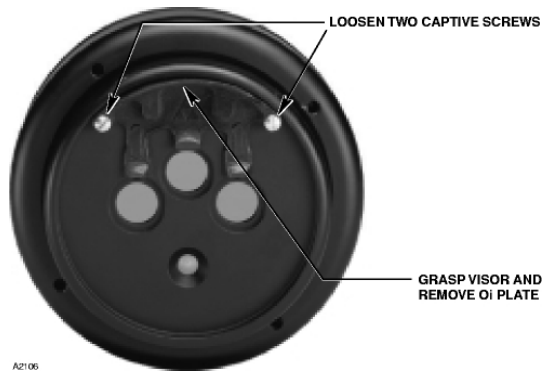

Figure 5 - oi Plate Removal
1. Loosen the two captive screws, then grasp the oi plate by the visor and remove it from the detector. See Figure 5.